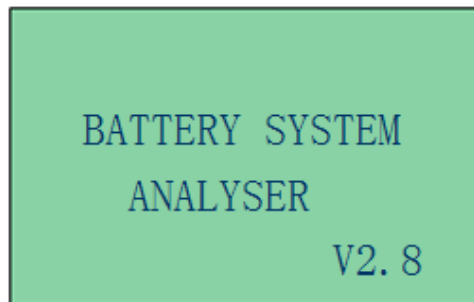

Figure 21
1. Attach the clips onto the battery terminal posts and the analyser will power up and lights up the LCD display screen as shown (Fig.21).